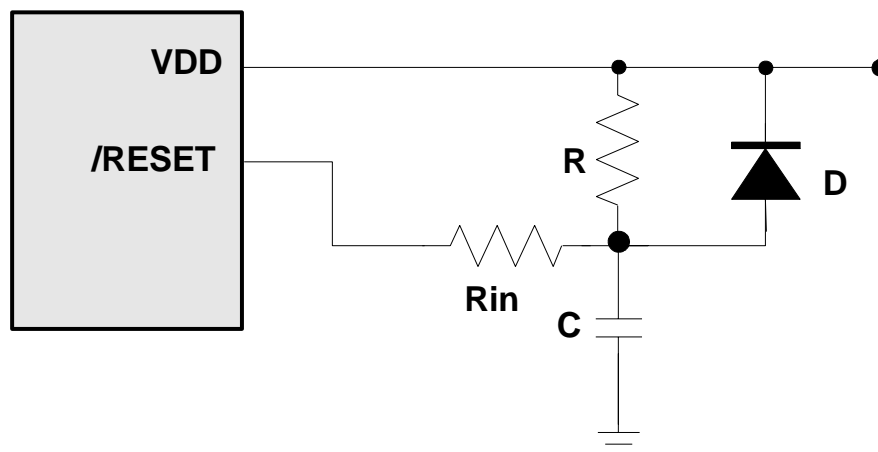

Figure 6-12 External Power-on Reset Circuit
The circuit shown in Figure 6-12 implements an external RC to produce a reset pulse. The pulse width (time constant) should be kept long enough to allow VDD to reach minimum operation voltage. This circuit is used when the power supply has a slow rise time. Because the current leakage from the /RESET pin is about $\pm 5\mu\text{A}$, it is recommended that R should not be greater than 40K. In this way, the voltage at Pin /RESET is held below 0.2V. The diode (D) acts as a short circuit at power-down. The capacitor, C, is discharged rapidly and fully. Rin, the current-limited resistor, prevents high current discharge or ESD (electrostatic discharge) from flowing into Pin /RESET.